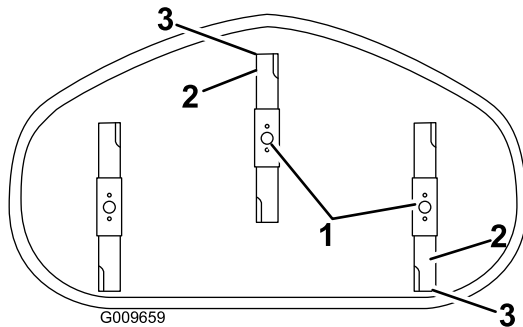
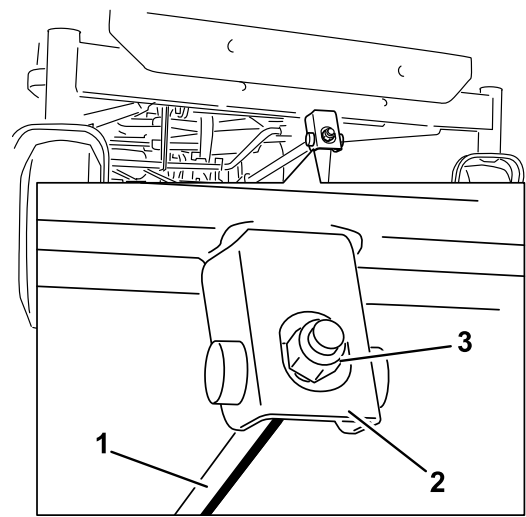

**Figure 66**
**Figure 67**
4. Carefully rotate the blades so they are facing front to rear (Figure 66 and Figure 67).
9. After adjustment, check the front-to-rear slope again, continue adjusting the nut until the front blade tip is 1.6 to 7.9 mm (1/16 to 5/16 inch) lower than the rear blade tip (Figure 66 and Figure 67).
5. Measure from the tip of the front blade to the flat surface, and the tip of the rear blade to the flat surface (Figure 66 and Figure 67).